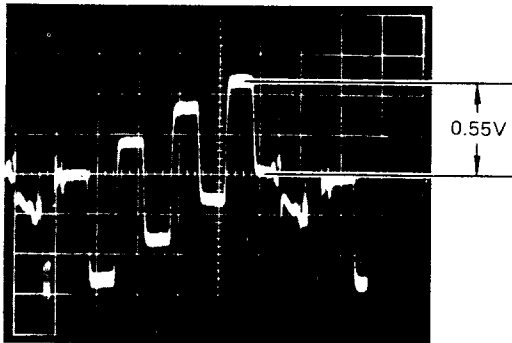

Fig. 4-2-12
- Connect the oscilloscope to TP4(B) on the Power/Monitor board.
- Adjust VR10 (SUB COLOR) so that the waveform becomes 0.55V. (Fig. 4-2-12)